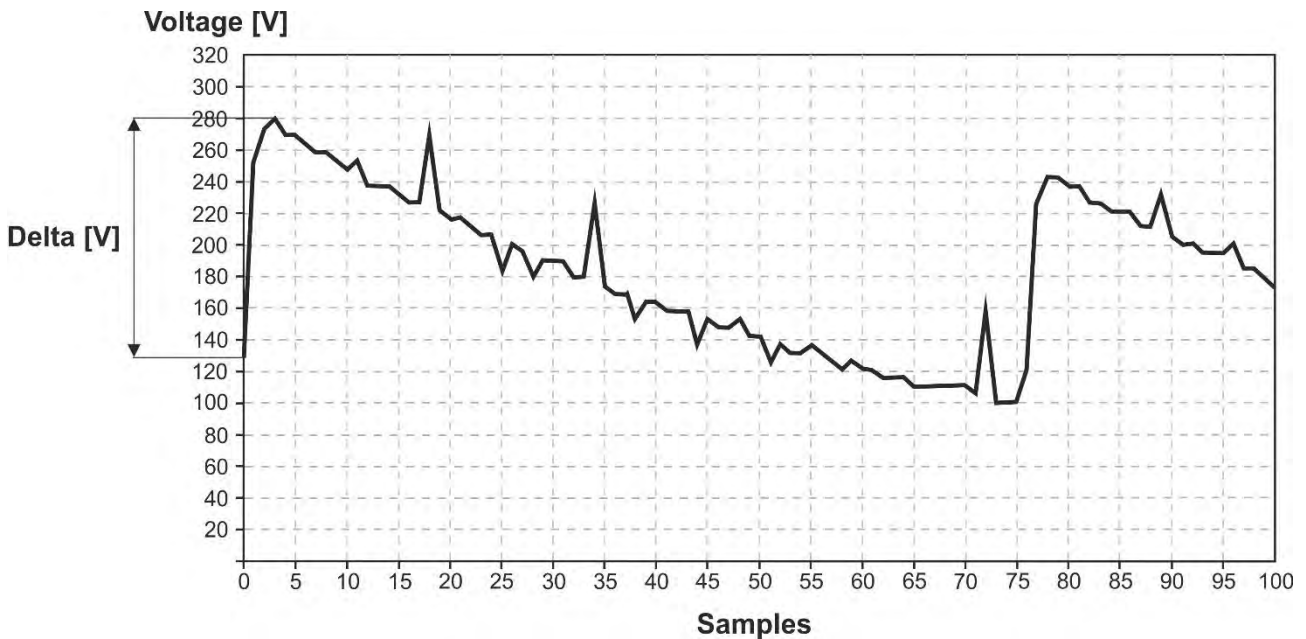

Fig. 92: Fast voltage transient analysis
2. The instrument always measures **1000 samples of 1 μ s** of the signal which then subsamples according to the observation window set and stores **only 100** (see Fig. 92) in order to save internal memory (for example, if Window = 100 μ s \rightarrow spike detected and 100 values available with 1 μ s resolution; if Window = 200 μ s \rightarrow spike detected and 100 values available with 2 μ s resolution and so on)
3. The instrument stores a **Delta [V]** equal to **the difference between the instantaneous value of the pre-spike voltage and peak value of the spike** (see Fig. 92)